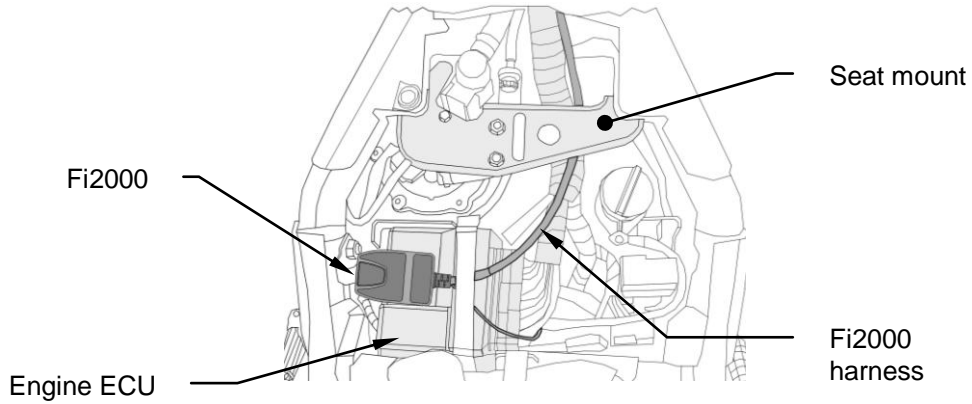
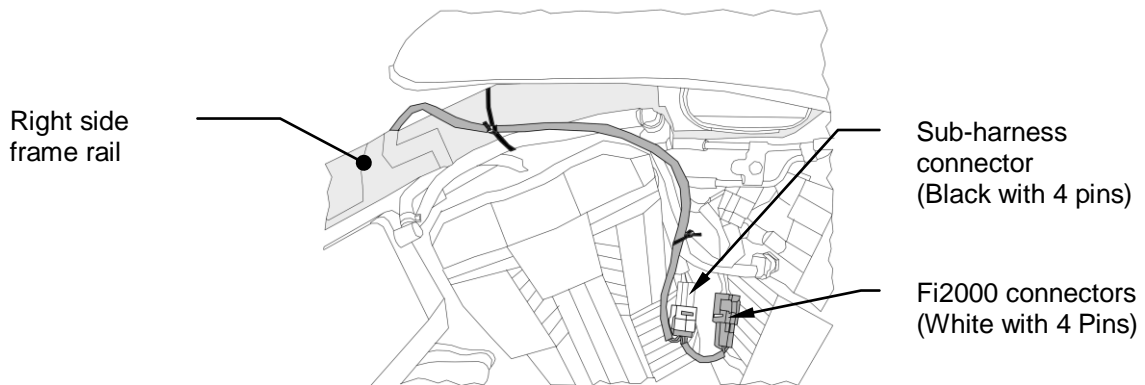

FIGURE 1
FIGURE 2
2. Temporarily place the Fi2000 module on top of the ECU and route the wire harness under the seat mount on the right hand side and on top of the large wiring harness, (Fig. 1). Continue by routing the harness over the top of the right frame rail and along the fuel line and stock harness locations, (Fig. 2). The Fi2000 connectors should lie close to the stock injector sub harness connector (4 pins).
3. Disconnect the stock injector sub harness connectors (black with 4 pins) by pressing the tab in. Plug the mating Fi2000 connectors (white with 4 pins) between them, (Fig. 2).